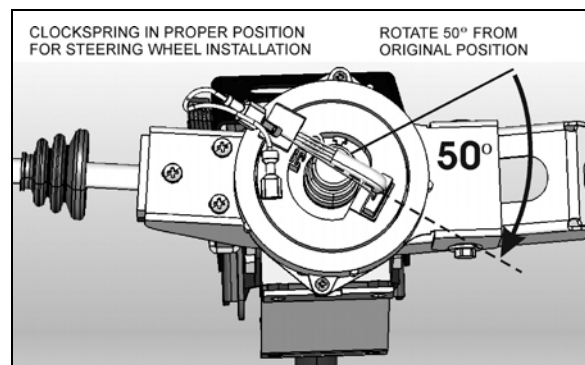

FIGURE 13: PROPER CLOCKSPRING POSITION
5. Break the paper seal and rotate the center part of the clockspring about 50° clockwise (Fig. 13). This step is necessary for the installation of the steering wheel.